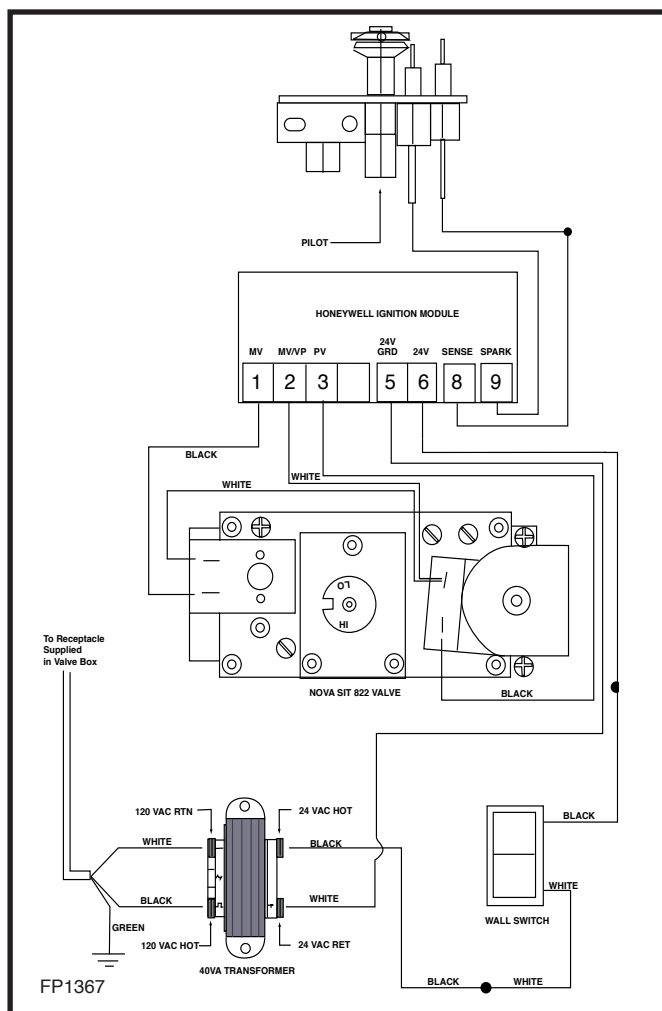

Fig. 11 Honeywell ignition module.
2. Attach the wire to the ON/OFF switch and install the switch into the receptacle box. (Fig. 11)